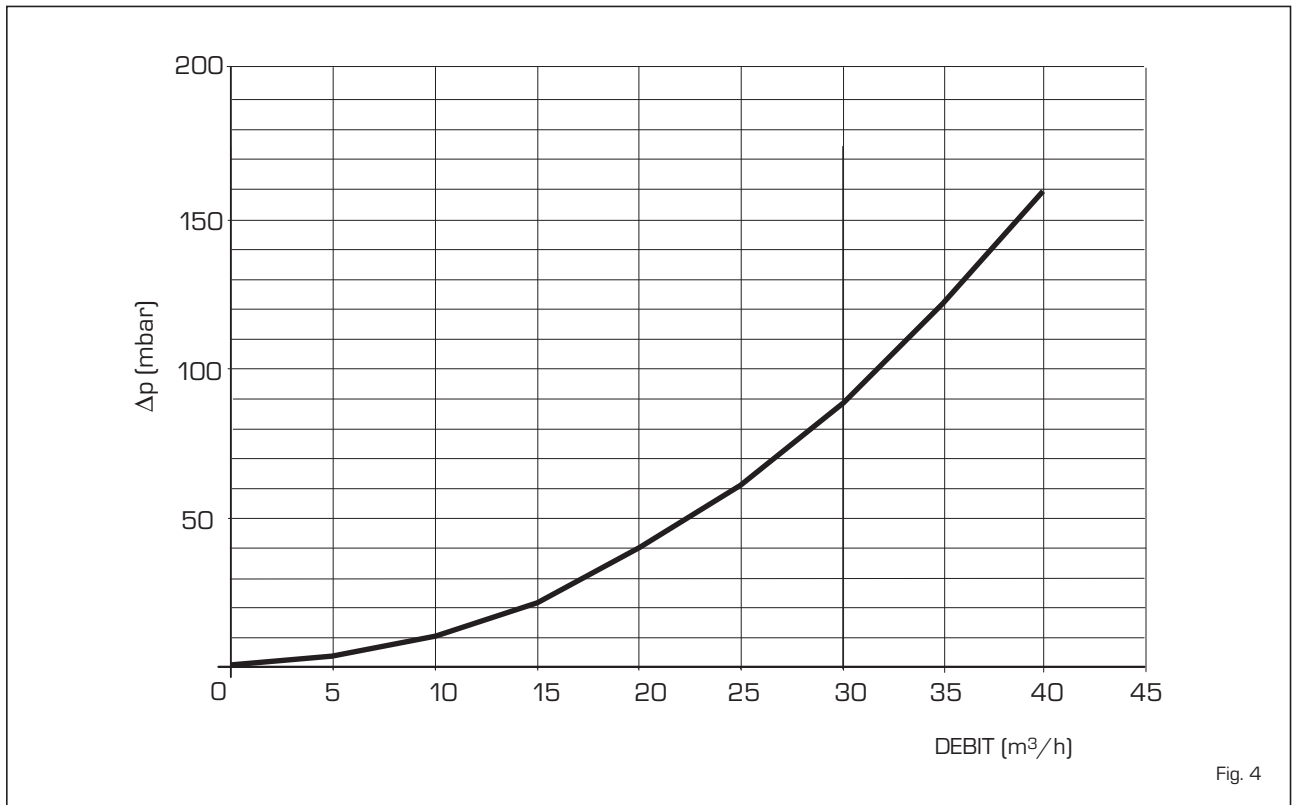

Fig. 4
1.6 PERTES DE CHARGE DU COMPENSATEUR HYDRAULIQUE FOURNI SUR DEMANDE DANS LES KITS COD. 8101552/53 (fig. 4)